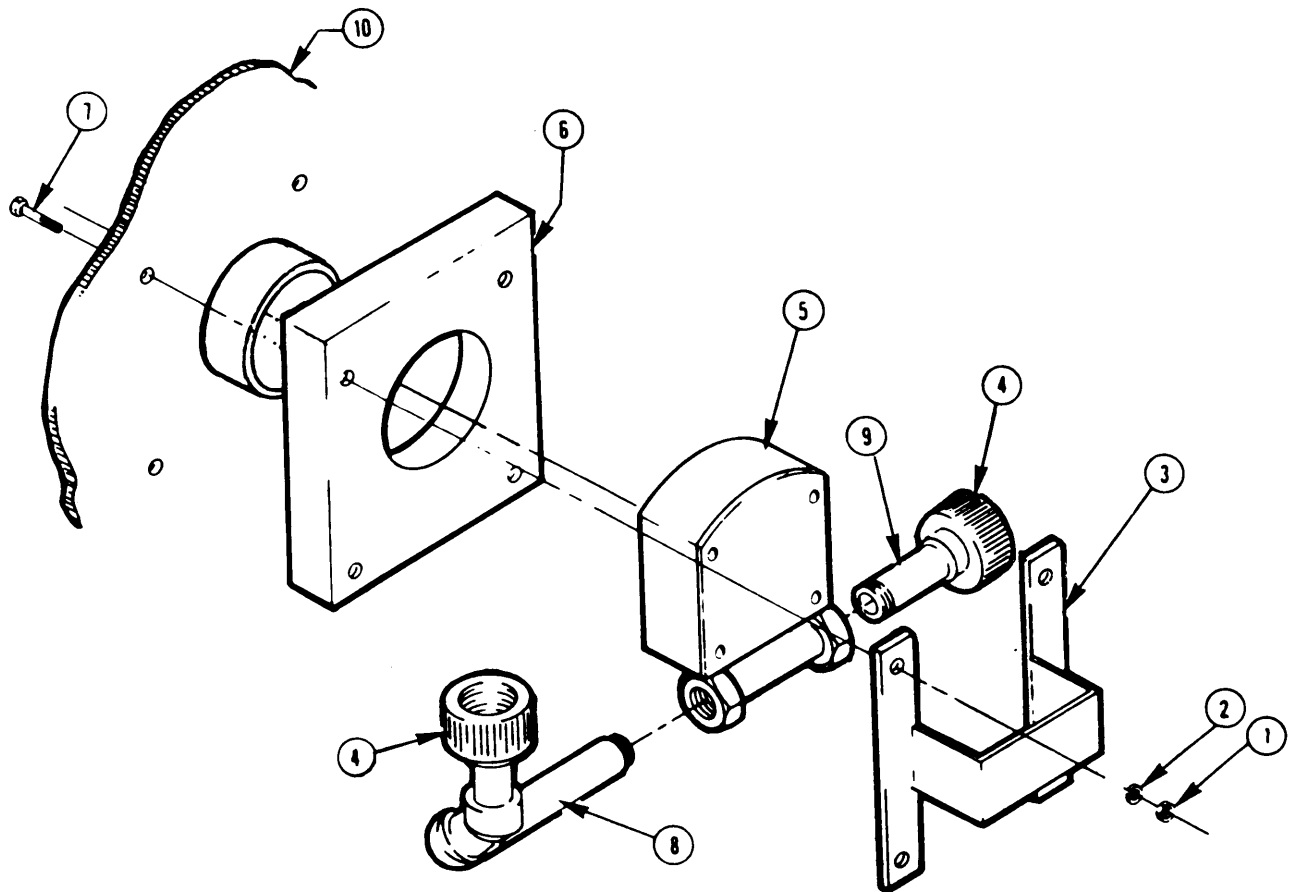

Figure 2-78. Raw Water, Backwash Water, and Brine Water Flowmeter (ARMY)
b. Removal. (Figure 2-78) (ARMY)
- (1) Loosen two unions (4) without removing the two meter coupling nuts or separating the unions.
- (2) Remove four nuts (1) and four lockwashers (2).
- (3) Remove mounting bracket (3).
- (4) Separate two unions (4).
- (5) Remove meter (5) with one half of each union (4), nipple (8), and associated piping (9) still attached, to opposite ends of the meter.
- (6) Remove meter mounting block (6) from control panel.
- (7) Pull four mounting screws (7) out of control panel (10).
- (8) Remove nipple (8) with one half of union from left side of meter.
- (9) Remove piping (9) from right side of meter.
- (1) Replace damaged nuts, bolts, screws, and washers.
- (2) Replace damaged tube assemblies and pipe fittings.
- (3) Replace or straighten damaged or bent mounting bracket.
- (4) Replace damaged or unserviceable flowmeter.
- (5) Send damaged flowmeters to Direct Support Maintenance.
g. Installation. (Figure 2-78) (ARMY)